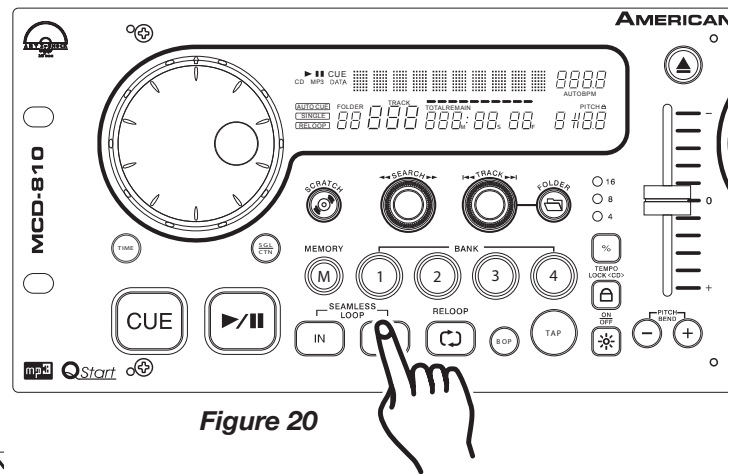

Figure 20
EXITING A LOOP - To exit a SEAMLESS LOOP, press the **OUT BUTTON (20)**. The **IN BUTTON (21)** and **OUT BUTTON (20)** L.E.D.s will remain on, but will stop flashing. Music playback will resume normal play (Figure 20). The **IN BUTTON (21)** and **OUT BUTTON (20)** L.E.D.s will remain on to remind you that a loop is stored in memory.